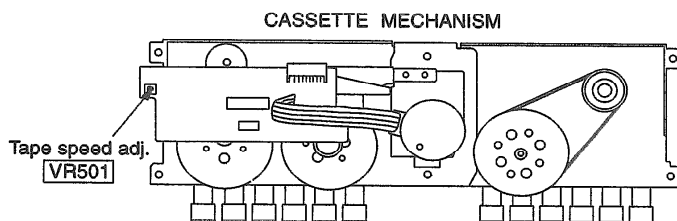

Fig. 5
4. Adjust VR501 for the output value shown below. (Fig. 5)